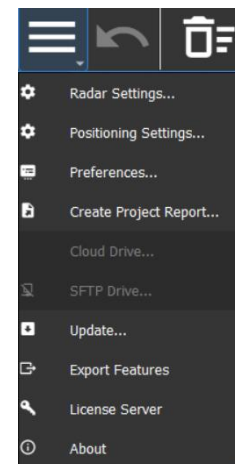

Fig. 35 Hamburger menu Window
1. click on  button, from top left of the uMap-Logger window and select the “Update”  command (Fig. 35),